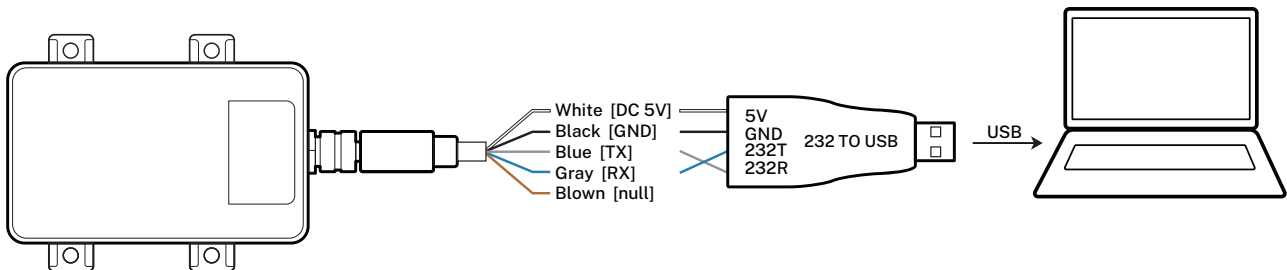

Figure 3. L4s/L4s-Filled to USB wiring diagram (brown wire is not connected)
1. As shown in Figure 3, the white wire is connected to the 5V DC power supply of the 232 to USB converter and the black wire is connected to the GND of the converter.